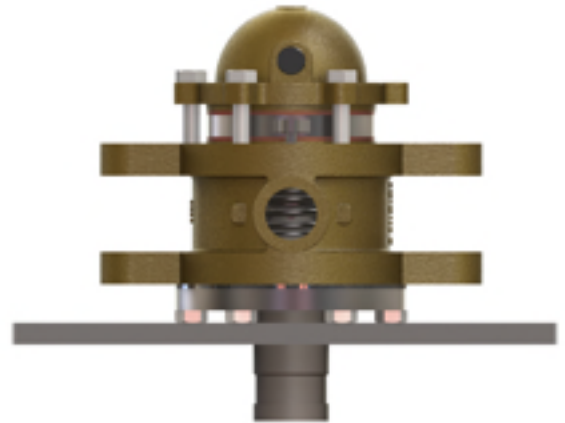

FIG 1
- 10- Hold the housing(1) of the joint with a bench vice and take out the inlet and outlet hoses.
- 14- Place the joint on the table onto the housing flange(4) as shown on Fig.1.
- 16- Do not forget that there is spring(7) inside the joint. All internal parts may pop out from the housing because of the force of the spring.
- 17- Remove hex bolts(17) from the end cap(18-19-20 21-22) and separate end cap from the housing and place it on the table.
- 18- Separate copper gasket(14) from the assembly plate(15).
- 19- Push assembly plate(15) from top and loosen screws(16) of the assembly plate.
- 21- After taking out the assembly plate, remove internal parts; rear seal ring(13), thrust collar(9) with siphon packing(10) and gland&nut(11/12), spring(7), wedges(8) , front shaft(2) and front seal ring(6).
- 23- Remove hex bolts(3) of the front housing flange(4) and separate housing flange from the housing.
- 24- Separate front housing gasket(5) from the housing.
- 29- Place housing onto the backside on a clean table and assemble a new housing gasket(5) onto the housing gasket surface.
- 30- Clean housing flange(4) and inspect it for corrosion and deformation. If sealing surface is deformed, apply microlapping proses or replace it with a new one.
- 31- Place housing flange onto the housing gasket(5) while microlapped surface facing inside the housing.
- 32- Align bolt holes of the housing flange(4), housing gasket(5) and housing(1) and fix housing flange to the housing with appropriate bolts.
- 33- Rotate housing upside down onto the housing flange(4) as shown Fig.1.
- 34- Place seal ring(6) inside the housing with microlapped seal surface facing microlapped surface of the housing flange.
- 35- Hold the shaft(2) from the wedges(8) side and place it into the housing with convex face facing concave face of the seal.
- 36- Place the spring(7) onto the shaft.
- 37- Be careful to align wedges(8) on the shaft and sockets on the thrust collar(9) and place thrust collar onto the shaft. Convex sealing surface will face upwards.
- 38- Assemble the rear seal ring(13) onto the thrust collar while concave sealing face of seal ring will face convex sealing surface of thrust washer.
- 39- Place a new copper gasket(14) onto the housing.
- 40- Clean assembly plate(15) and inspect it for corrosion and deformation. If sealing surface is deformed, apply microlapping proses or replace it with a new one.
- 41- Place the assembly plate(15) on to the rear seal ring(13) while microlapped surface facing microlapped surface of rear seal ring.